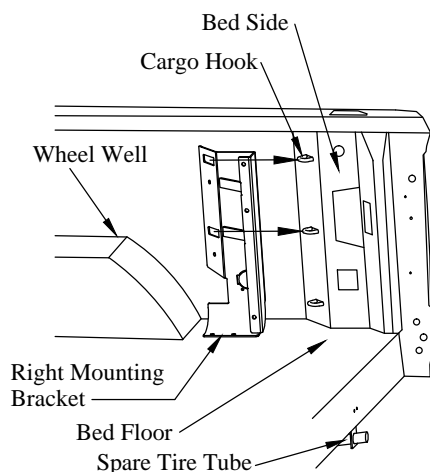

Figure 12: Mounting bracket location.
2. **Position** the mounting brackets into the truck bed over the cargo hooks (Figure 12).